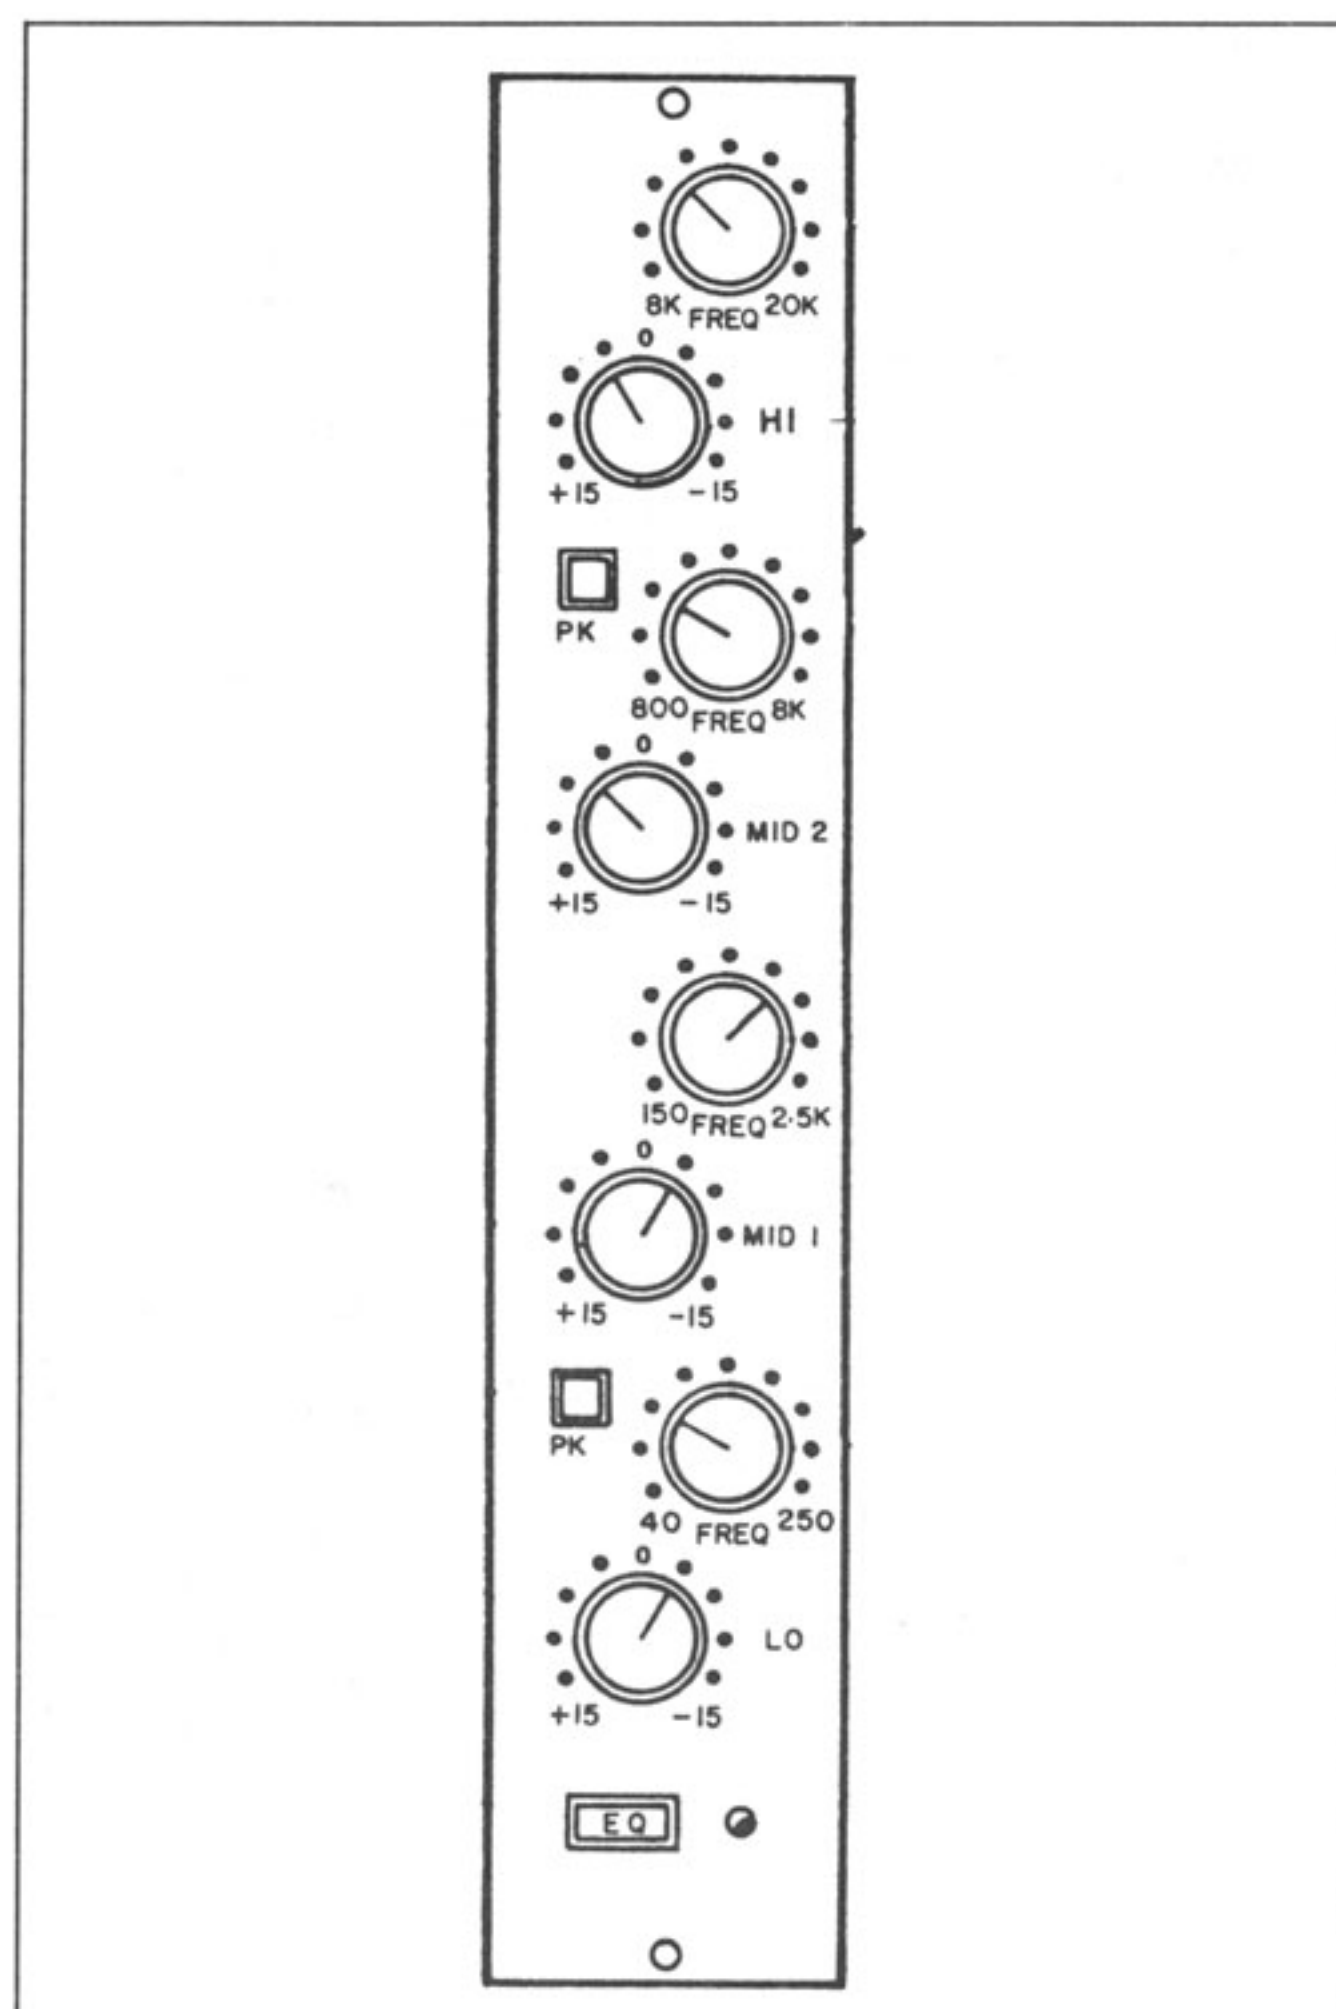

Figure 1-4. Equalizer MXBK-EQ31
- **MXBK-EQ31** Four Band, fixed-Q, Wien Equalizer (see Figure 1-4).
- **MXBK-EQ34** Four Band, fixed-Q, Passive (LC) Equalizer.